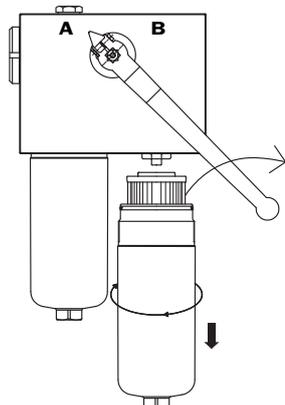

Fig. 3
Unscrew housing (B) using the appropriate tools and extract the filter element (Fig. 3).